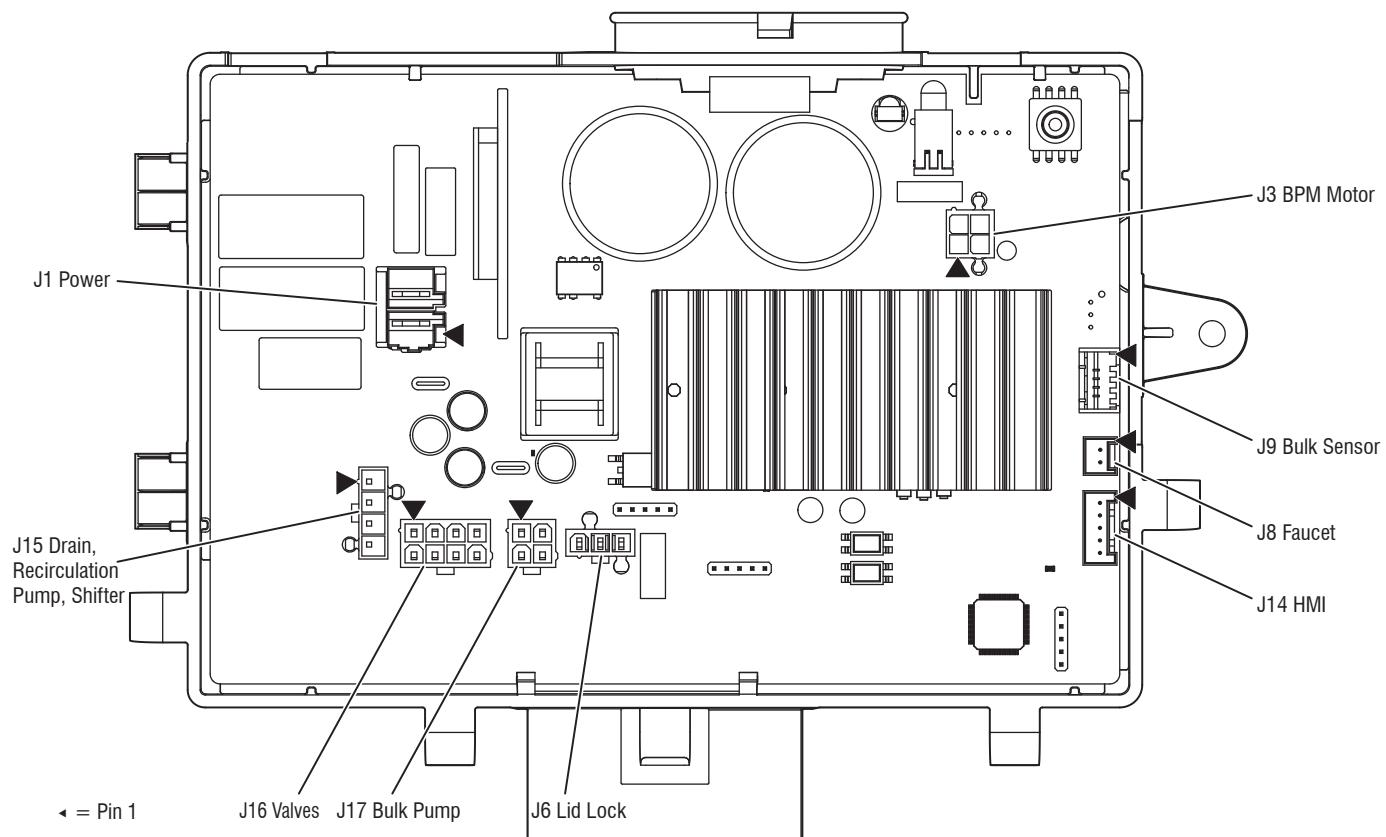

Figure 4 - Main Control (ACU)
- c. Remove connector **J8** from main control. Refer to Figure 4 - Main Control.